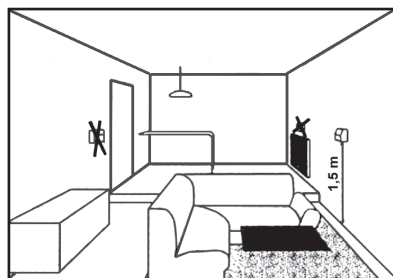

Fig. 1
1. Look for a location which has a constant temperature in the house and it is not near the door entry or air conditioning outlet. (see example on figure 1).